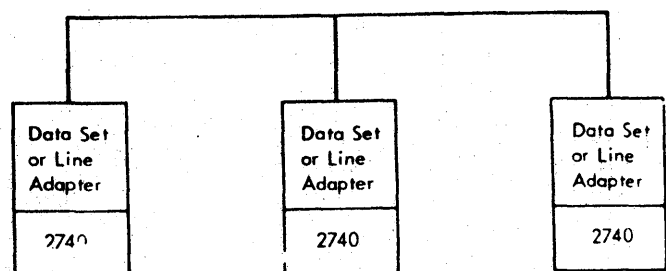

Figure 20. Multipoint-Contention Type
- a. Contention type: has several 2740's connected to the same line (Figure 20). The first operator to press the bid key obtains control of the line and his terminal becomes a transmitter. The others are receivers until the operator at the transmit terminal presses the EOT (end of transmission) key.